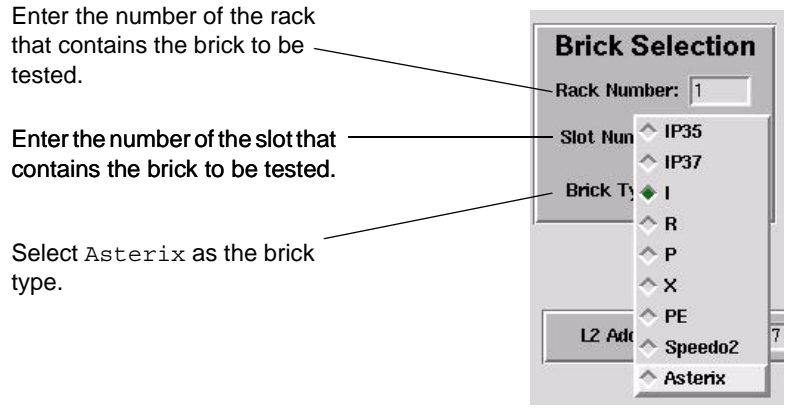

Figure 2-5 Setting the Brick Selection Parameters
6. Select the brick that you want to test (refer to Figure 2-5):